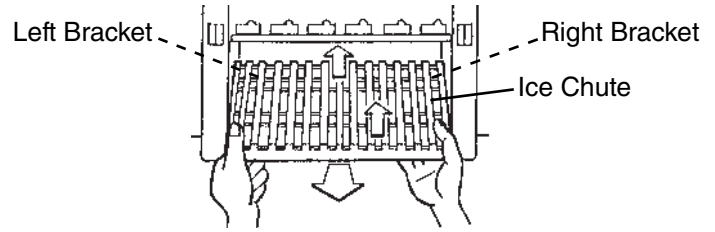

Fig. 36
- 6) Lift the ice chute up from the left and right brackets. See Fig. 36.